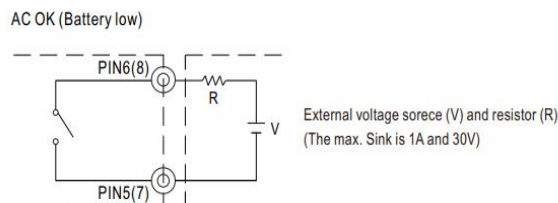

Fig 2.2 Internal circuit of AC OK (Battery Low), via relay contact
(1) Alarm signal is sent out through "AC OK" & "Battery Low" pins. (TTL open collector output is provided for standard model, and relay contact output is provided as optional model.)
(2) An external voltage source is required for this function. The maximum applied voltage is 50V and the maximum sink current is 30mA. Please refer to Fig 2.2.
(3) Table 2.1 explains the alarm function built in the power supply